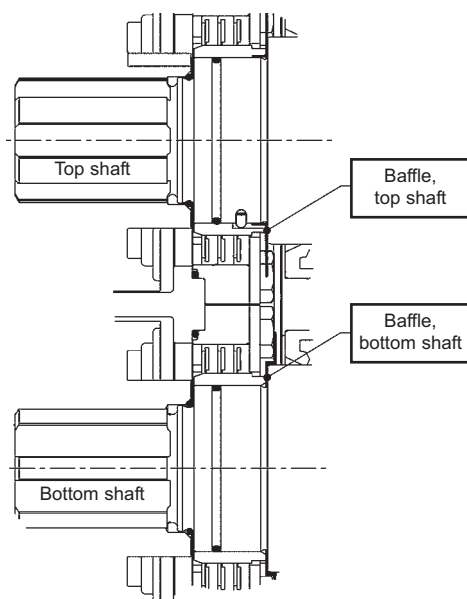

Figure 15
5. Reassemble the baffles **109** and **110** on the corresponding shaft (see figure 15).
Non-compliance with the assembly shaft or the assembly directions shown in figure 15 will result in the jamming of the pump.